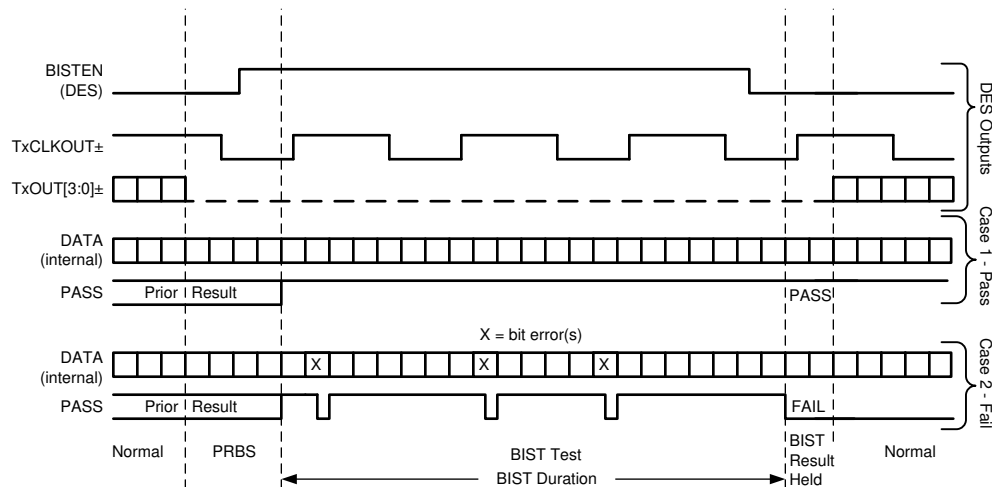

图 17. BIST Waveforms in Conjunction With Deserializer Signals
**Step 4:** The link returns to normal operation after the deserializer BISTEN pin is low. Figure 17 shows the waveform diagram of a typical BIST test for two cases. Case 1 is error-free, and Case 2 shows one with multiple errors. In most cases it is difficult to generate errors due to the robustness of the link (differential data transmission, and so forth), thus they may be introduced by greatly extending the cable length or faulting the interconnect medium.